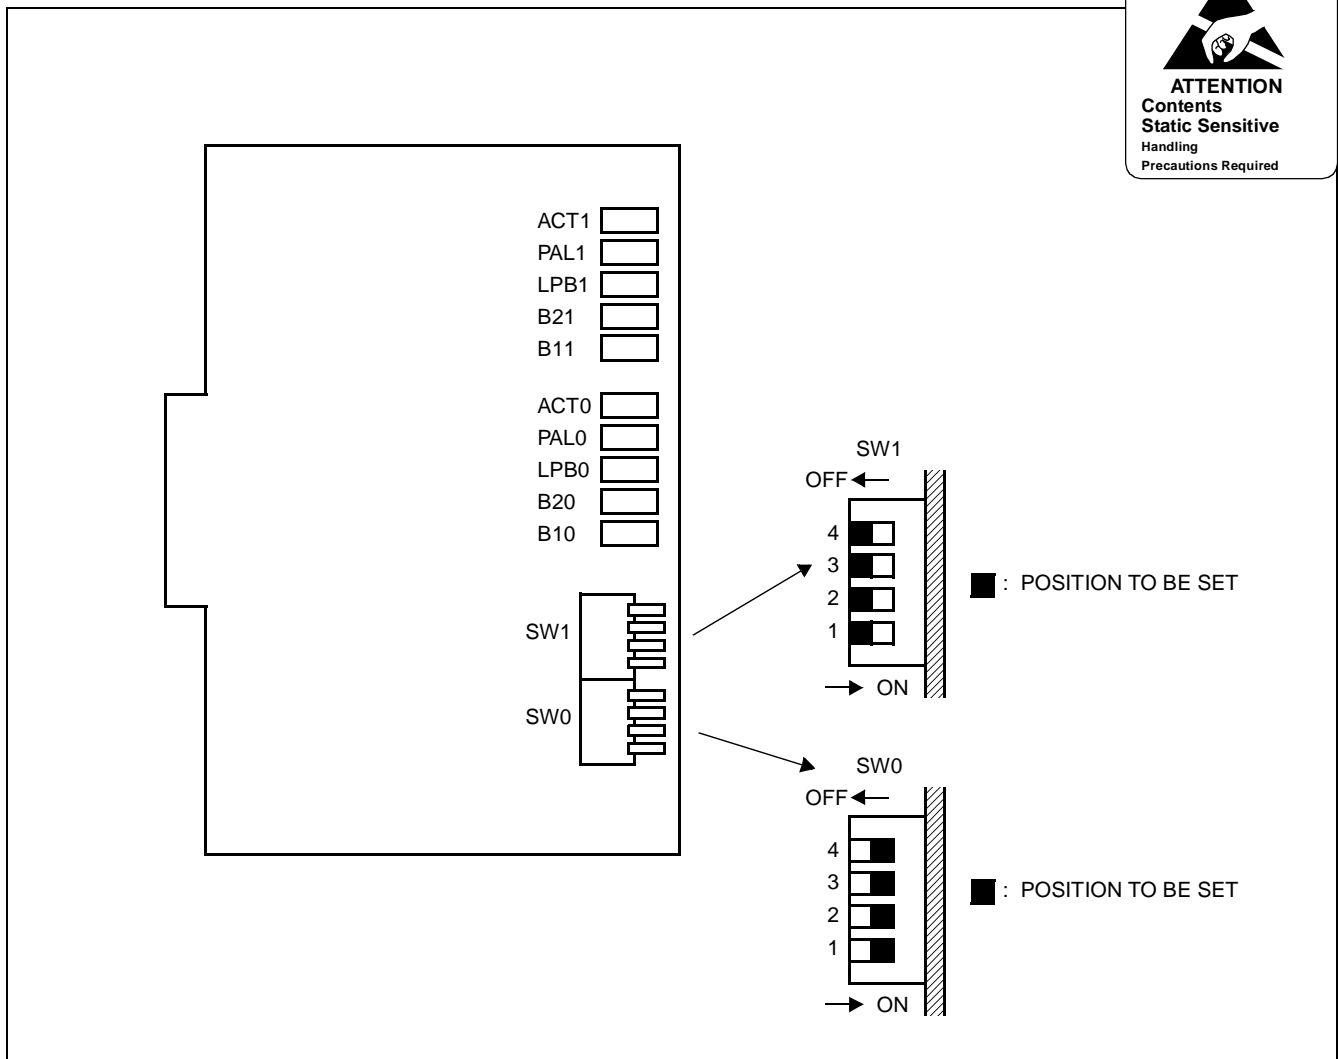

Figure 3-21 Switch Settings on the ILC Card
STEP 1: On the ILC (PN-2ILCA) card, set the switches as shown in Figure 3-21.